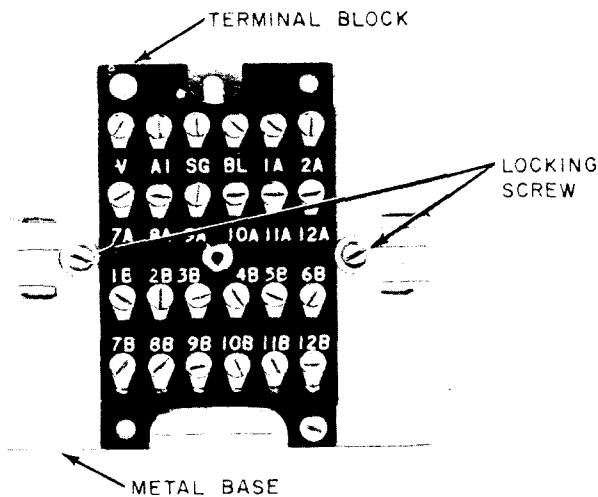

Fig. 4—149A (MD) Adapter, Cover Removed
B. 149A (MD) Adapter
2.12 The 149A (MD) adapter consists of terminal block (Fig. 4), one KS-16671, List 1 plug, and one KS-16672, List 1 receptacle assembled on a metal